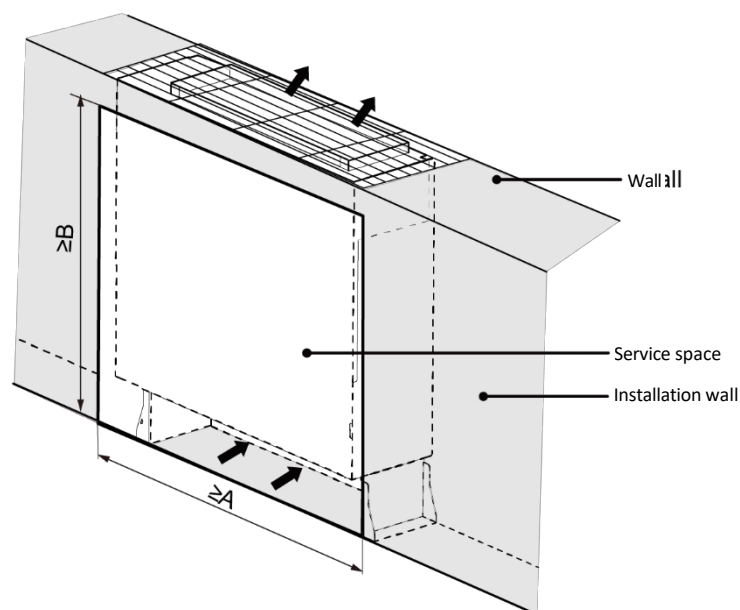

Fig. 3.2.1
- ① The unit must not be installed in the laundry room.
- ② The installation location must be able to support the weight of the unit.
- ③ The unit must not be installed on a sloped floor.
- ④ The drain pipe must be able to drain water easily.
- ⑤ There must be no obstructions in front of the air inlet or outlet. Please ensure proper airflow.
- ⑥ When the indoor unit is recessed, be sure to install it according to the dimensions shown in Fig. 3.2.1 to allow sufficient space for maintenance.